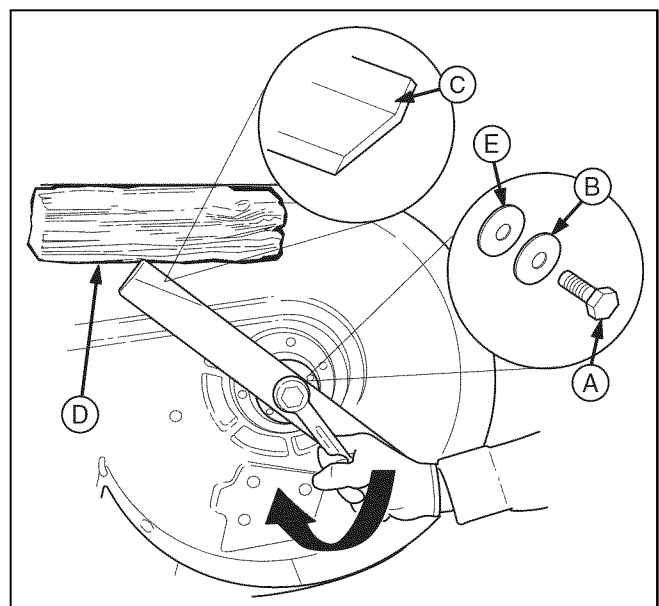

Figure 25. Tightening the Mower Blade for Installation
1. Reinstall each mower blade with the air lifts pointing up towards the mower deck as shown in Figure 25. Wedge a wooden block between the mower blade and the mower deck housing, and secure the mower blade with the mower blade mounting bolt, hex washer and spring washer (A, B & E, Figure 25) and torque to 45-55 ft. lbs. (61-75 Nm).